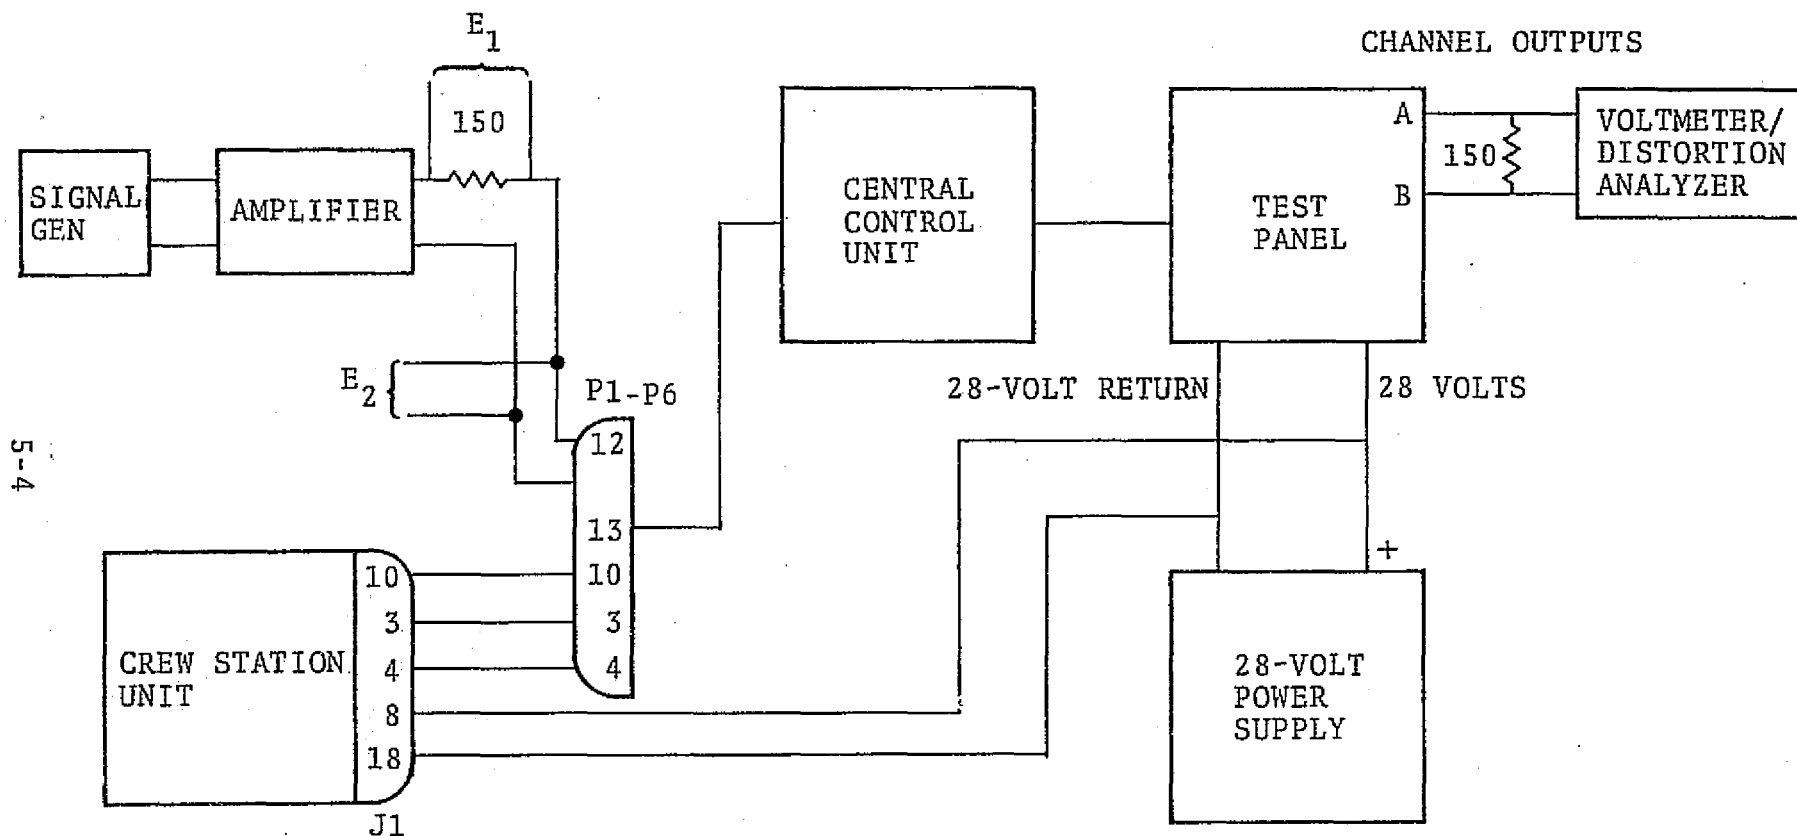

Figure 5-1. — Transmit section test setup.
1. Connect the equipment as shown in figure 5-1 using plug P-1.
1. Connect the equipment in the test set-up of figure 5-1 starting with plug P-1.
9. Repeat steps 1 through 5 and also step 8 with plugs P-2 through P-6 connected in the test set-up of figure 5-1. Record the resultant voltages and distortion levels in the appropriate column of data sheet C-1.
10. Actuate the channel 1 transmit mode with connector P-6 connected in the test set-up of figure 5-1. Connect a 150-ohm resistor across this channel output.
1. Insure that the test set-up is as shown in figure 5-1. Turn off the signal generator.